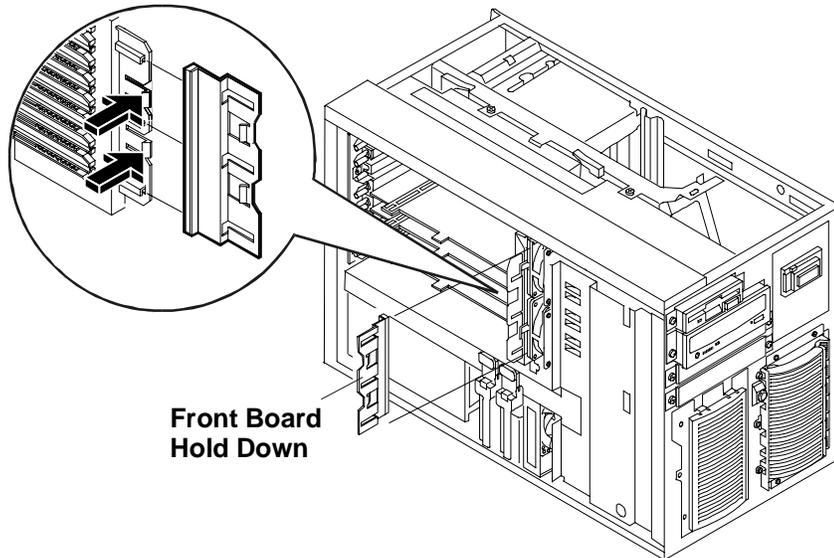

Figure 6-4. Removing Front Board Hold Down
- Remove the PCI front board hold down before installing the new PCI board (see Figure 6-4).